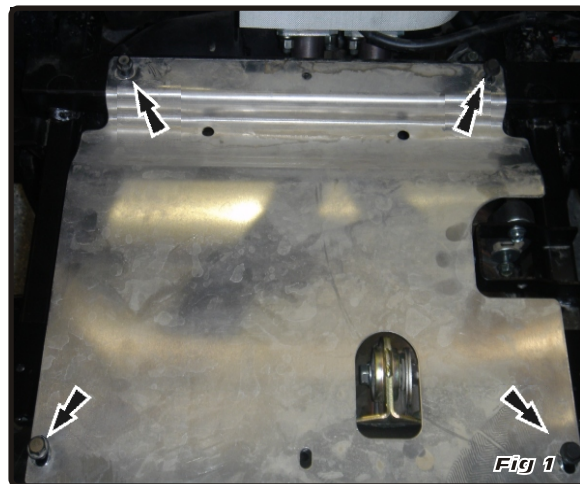

Fig 1
6. After drilling make sure all bolt holes line up correctly (as shown in Fig 1).